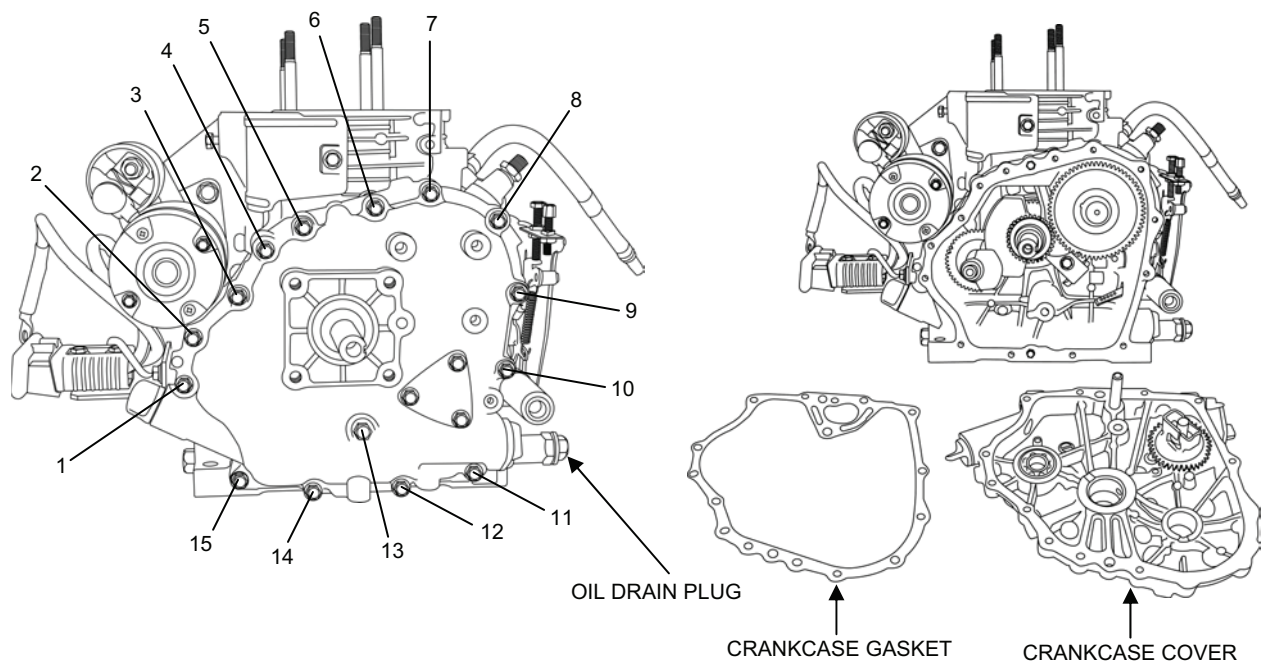

Figure 6. Crankcase Cover Cap Screw Removal.
6. Remove the 15 cap screws identified in Figure 6 from the engine crankcase cover. (The cap screws do not need to be removed in any particular order.)